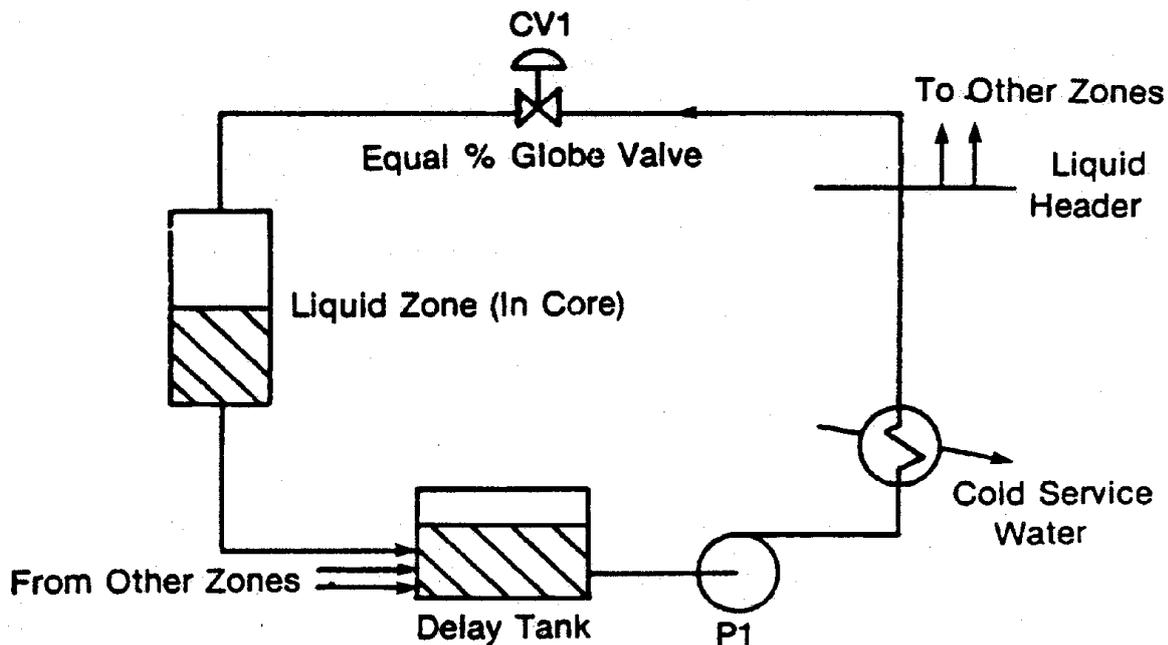

Figure 14: A Simplified Zone Level Control Circuit.
- An application of equal percentage valves in CANDU nuclear plants is for the control of light water flow into the **Liquid Zone Control System** (to obtain a relatively linear installed flow vs lift relationship). Figure 14 shows a simplified version of the system.